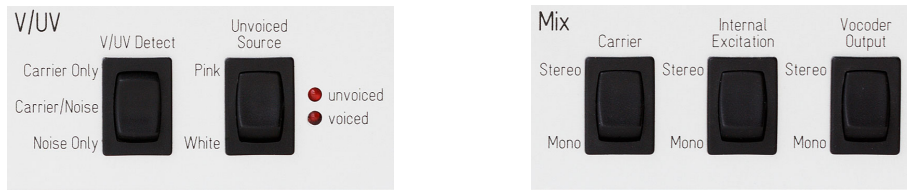

Fig. 52: Initial switch settings for AGC and V/UV detection calibration.
1. On the front panel, switch Unvoiced Source to Pink (Fig. 52).
2. Set the three switches in the Mix section on the front panel to Stereo (Carrier, Internal Excitation and Vocoder Output; see Fig. 52).
- On the front panel, set the V/UV Detect switch to Carrier/Noise. On the front panel, set the Unvoiced Source switch to Pink (Fig. 52).